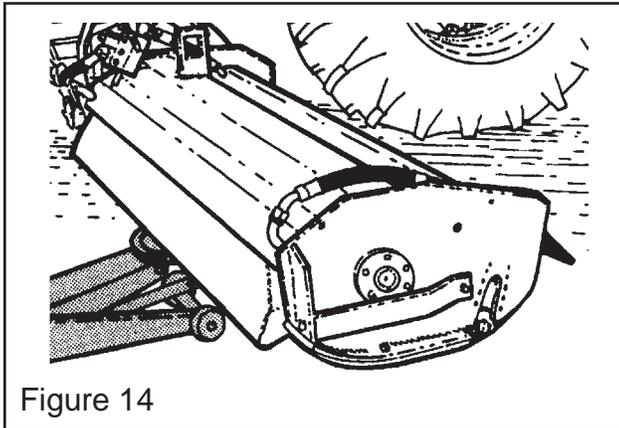

Figure 14
*(See Figure 14, 15, 16 & 17)*